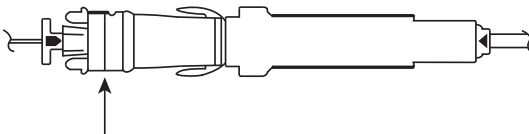

Figure 4: Fully seated Applicator in probe
Caution: To properly deploy pellets, the Applicator Yellow Indicator (D) must be fully seated against the probe and aligned with the red arrow. See Figure 4.